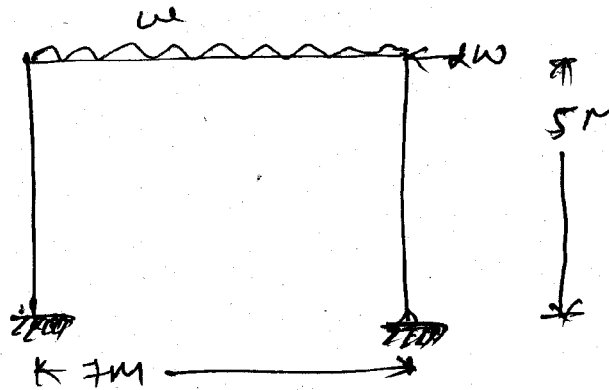

Fig.7
- 4 Calculate the collapse load for frame shown in figure 7. 18